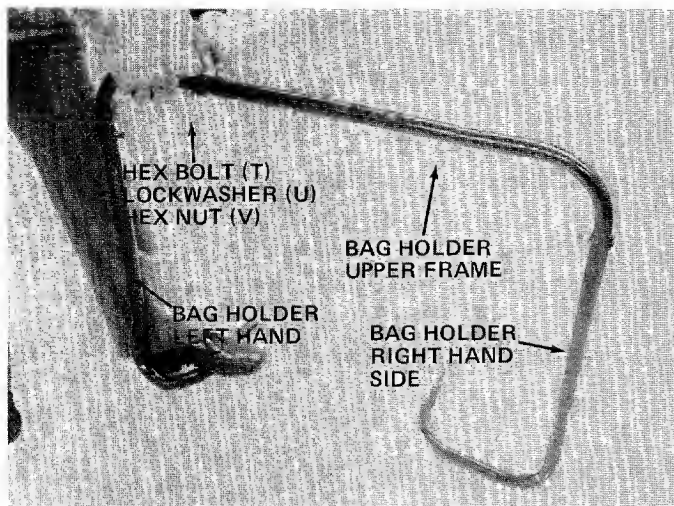

FIGURE 10
11. Assemble the bag holder frame. Slip the upper frame into the right and left hand frame halves. Secure with two hex bolts (T), lock washers (U) and hex nuts (V). Two 7/16" wrenches are required. See figure 10.